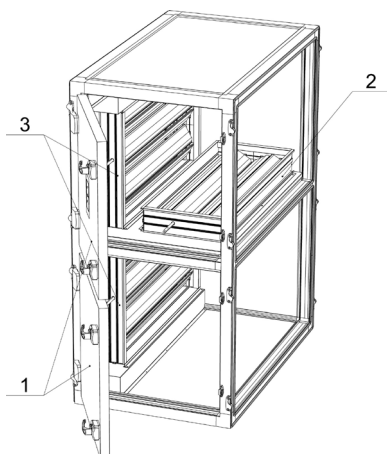

Figure 6.7.3. Two stage mixing section with three dampers inside.
3. Two stage mixing section with three dampers inside (double deck (Figure 6.7.3) or side by side).